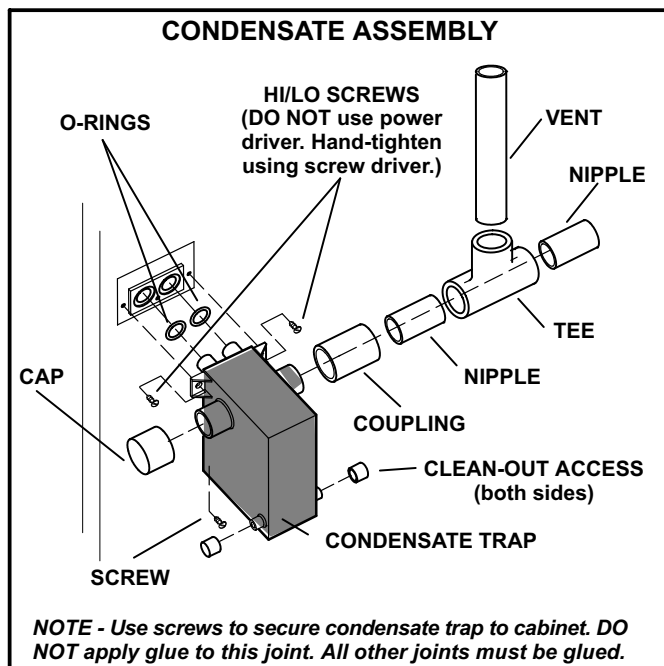

FIGURE 45
- 2 - Install condensate trap onto the condensate collar. Use provided HI/LO screws to secure two upper flanges of the trap to the collar. Use provided sheet metal screw to secure bottom trap flange to side of unit. **DO NOT apply glue to secure condensate trap to cabinet.** All other joints must be glued. See figure 45.